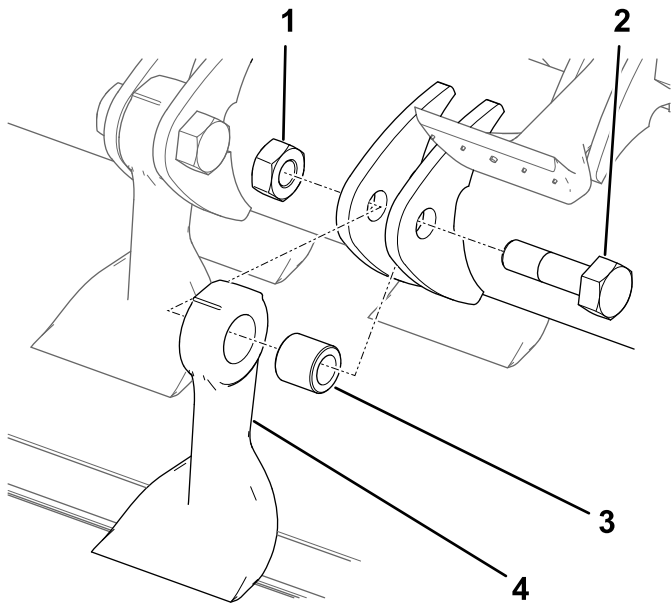

Figure 76
8. Holding the blade in a rag or padded glove, remove the nut, bolt, bushing, and blade (Figure 76).
10. Install a new blade and bushing with a new nut and blade bolt (Figure 76).